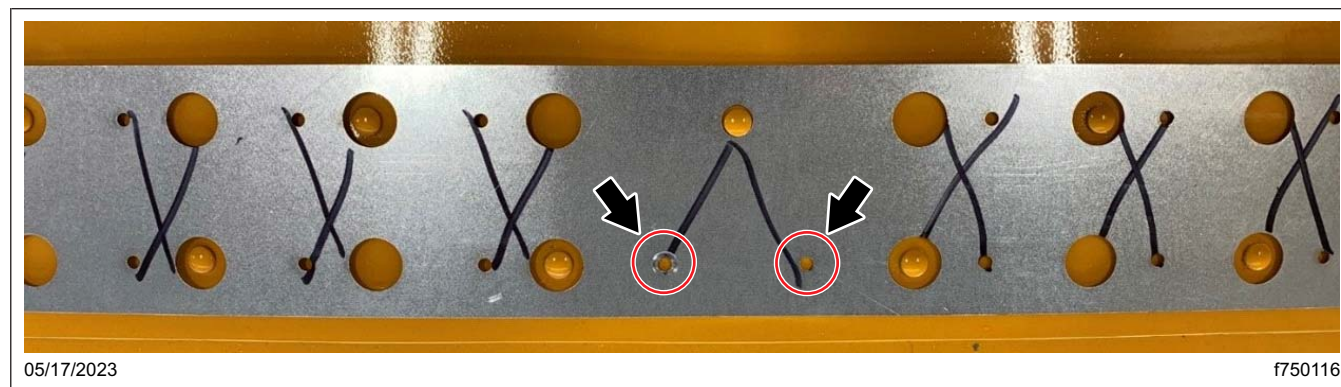

Fig. 12, Two Marked Locations Connected to the Center Rivet
16. The center rivet has two marked locations, connected by lines. See Fig. 12.